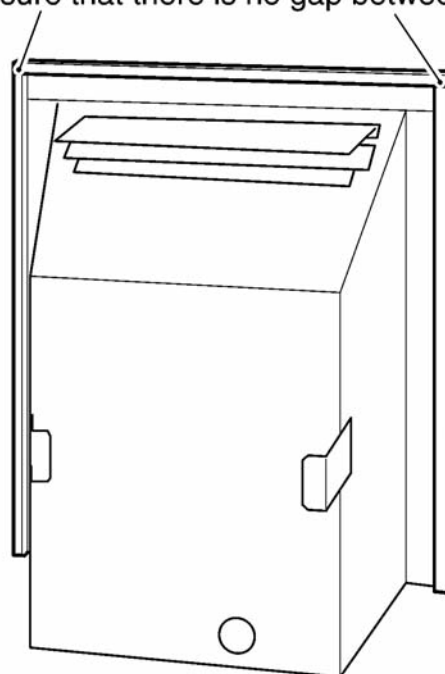

Figure 14. Fitting the foam seal
6. There is a length of self adhesive foam seal supplied with the fire. This will need to be fitted to the outer rear edges of the side and top flanges of the hotbox. Cut a 485mm length of foam seal. Be careful not to stretch the seal when measuring. Remove the protective backing from the foam seal and fit this to the rear of the top flange (See figure 14). Cut two 580mm lengths. Fit these to the rear outer edges of the side flanges. Ensure that there is no gap between the foam seals where they meet at the top flange (See figure 14)